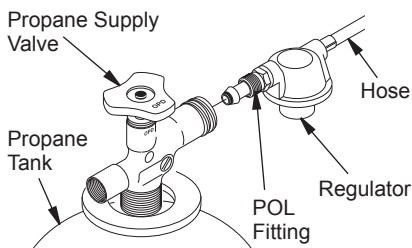

Figure 2 - Connecting Heater to Propane Tank
1. Wrench tighten the fuel connector nut into the propane tank valve (see Figure 2). Turn fuel connector nut counterclockwise to tighten. Threads are left-handed.